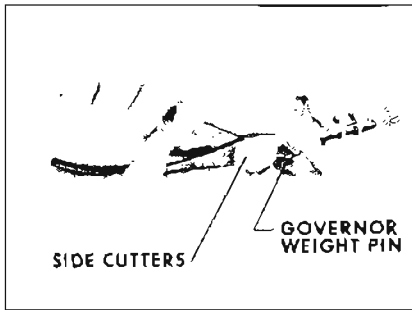

Figure 5-241
1. With side cutters remove governor weight pins. See Figure 5-241.